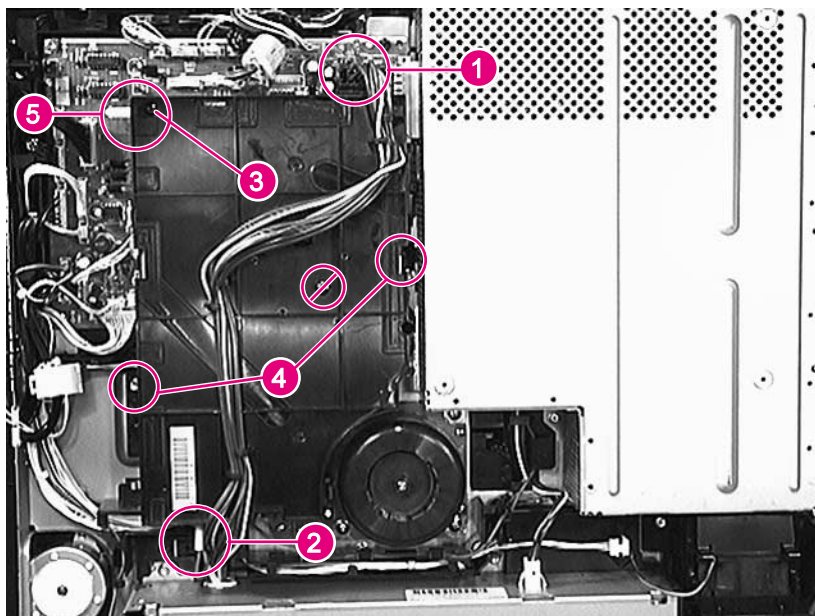

Figure 6-51 High Voltage Power Supply
- High Voltage Power Supply (HVPS) (see figure 6-51 on page 319)
- 2 Remove the HVPS (see figure 6-51 on page 319).
- 3 Remove the High Voltage Power Supply (see figure 6-51 on page 319).
- 2 Unplug the cable from the LVPS to the DC Controller PCA (figure 6-51, callout 1), and move it out of the way.
- 3 Unplug the connector from the bottom of the HVPS (figure 6-51, callout 2).
Do NOT remove the screw indicated in Figure 6-51, beneath the null symbol.
- 4 Remove 1 self-tapping screw (figure 6-51, callout 3) and 2 screws (figure 6-51, callout 4).
Make sure that the plastic alignment pin (figure 6-51, callout 5), the connector pins, and the high voltage contacts are properly aligned before replacing the screws.